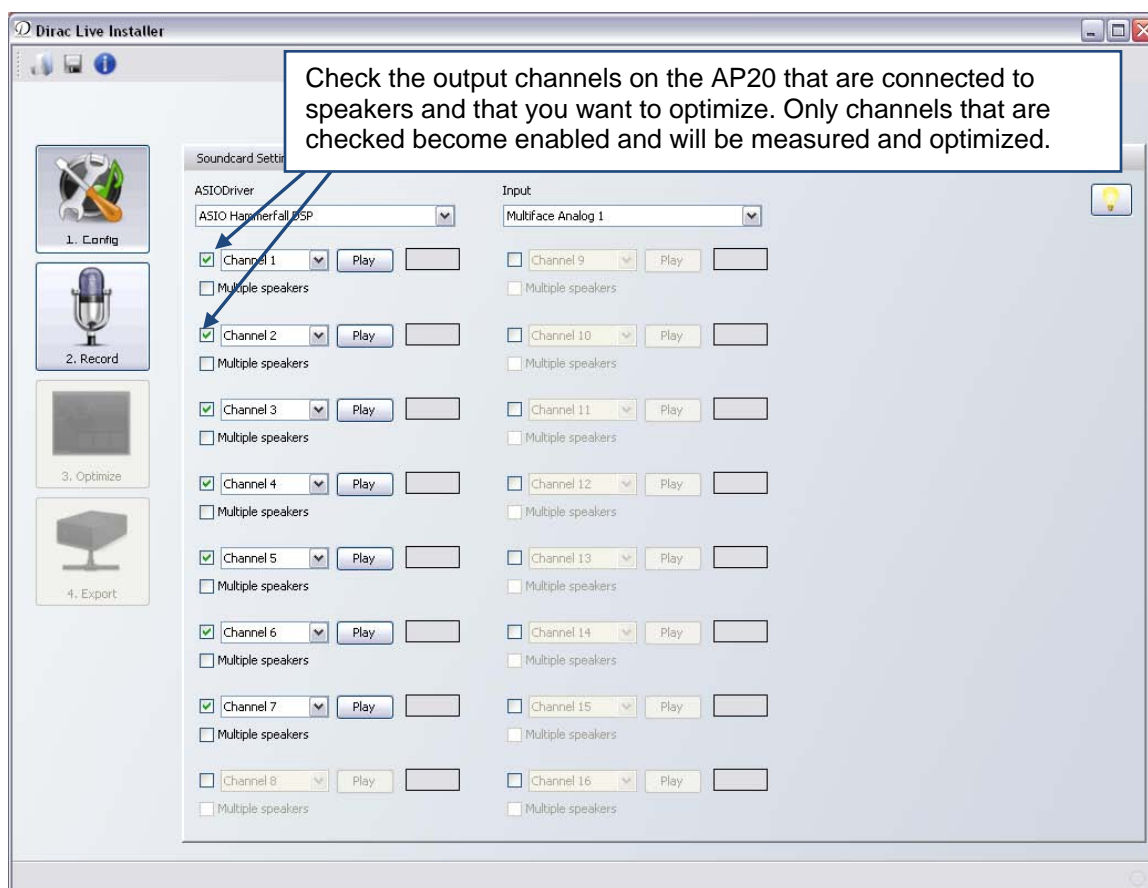

Figure 7. Soundcard Setup Screen
3. Select the output channels on the AP20 that are connected to speakers that you want to optimize. Only the selected channels are enabled and will be measured and optimized. See Figure 7.